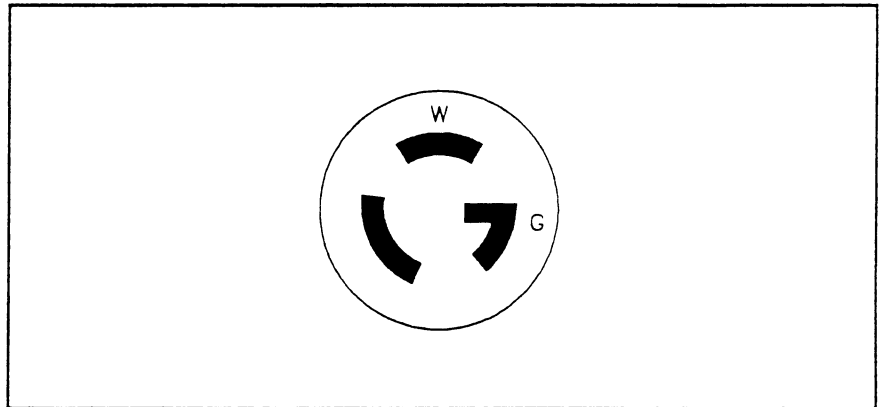

Figure 2-3. NEMA L5-30P
- a. **120 VAC** - Use cabinet power supply cord with twist lock grounding type attachment plug (NEMA type L5-30P) as shown in Figure 2-3.